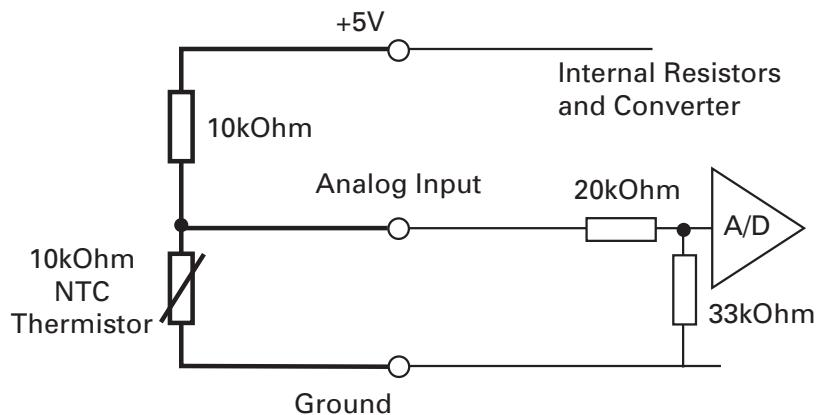

FIGURE 3-12. NTC Thermistor wiring diagram
- Connect the sensor with a pull-up resistor (value 10kOhm) to the 5Volt supply, as shown in FIGURE 3-12.